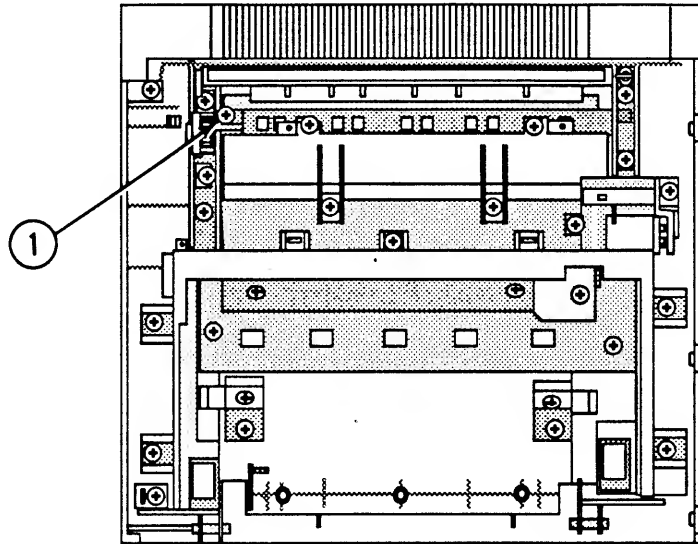

FIGURE 77
2. Remove the Phillips screw (Figure 77, #1) that secures the delivery coupler assembly to the delivery assembly. Remove the delivery coupler assembly.